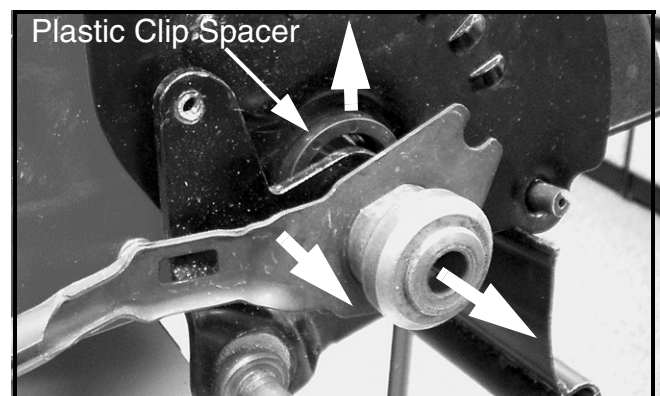

FIGURE 7
15. Slide the transmission support bearing off of the transmission's output shaft, remove the height adjuster spring lever and the plastic spacer clip. See Figure 7.